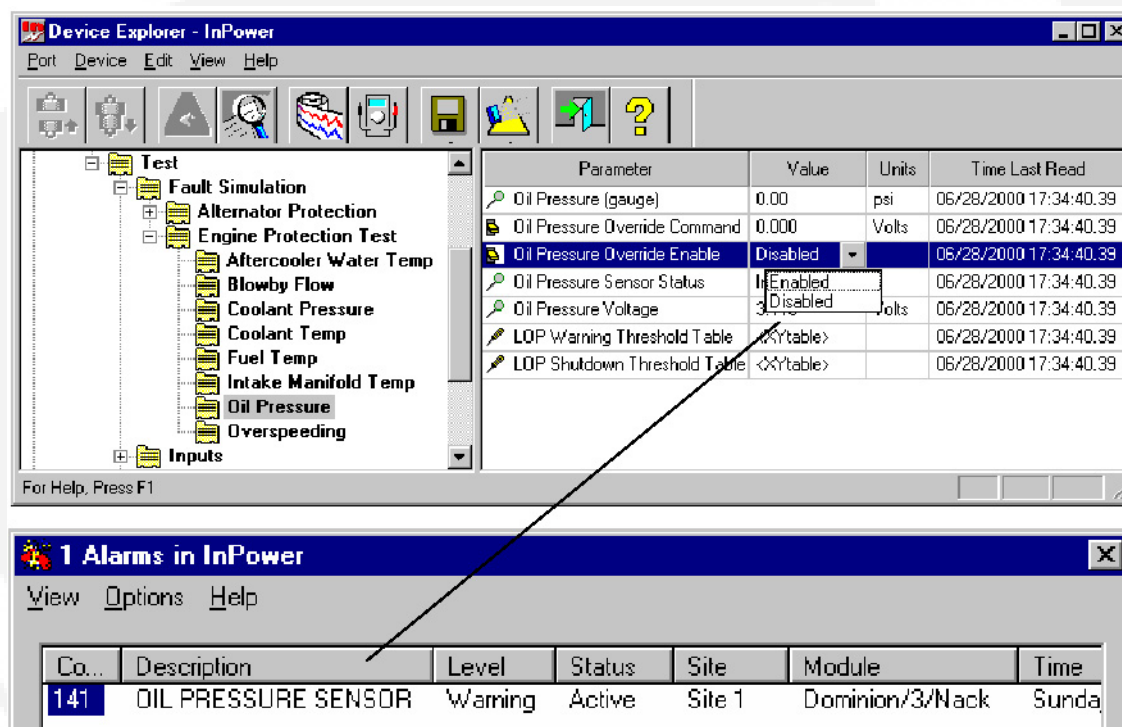

FIGURE 96. TEST - ENGINE PROTECTION -OIL PRESSURE TEST
**Example:** In this example, InPower is used to test an engine protection feature (Figure 96).
The Alarm popup will display the active warning (Figure 96).